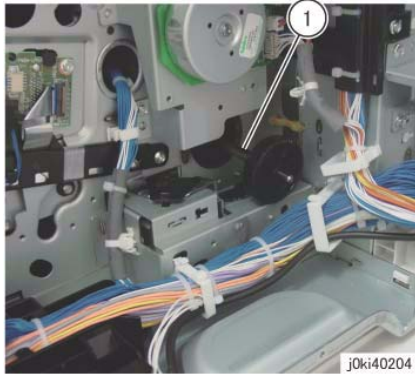

Figure 2 Remove the gear and shaft
6. Remove the gear and shaft. (Figure 2)